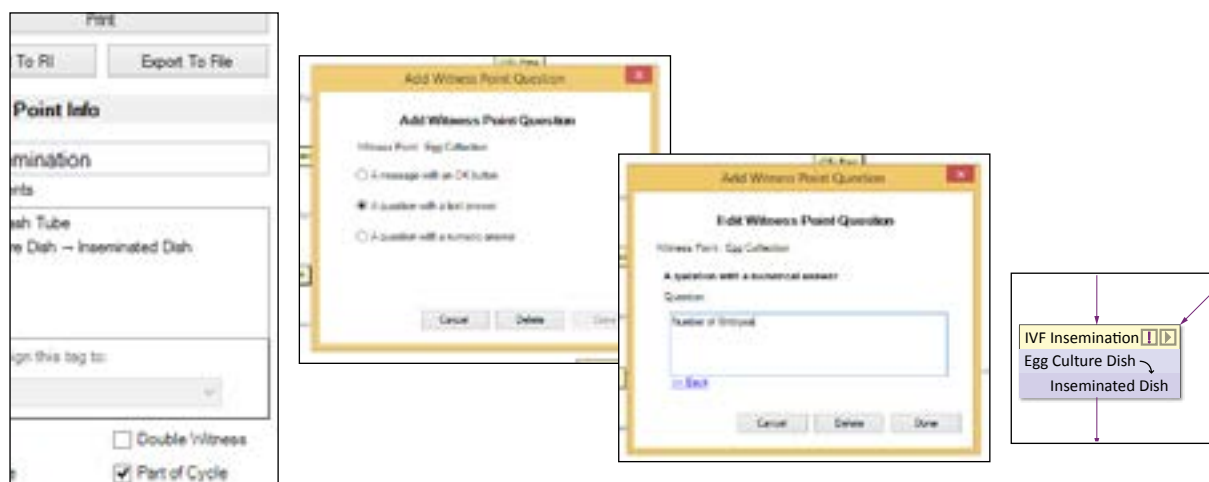

Figure 6-36 Adding a witness point question that requires a numerical answer
2. Choose a question type and enter the question text. See Figure 6-36.